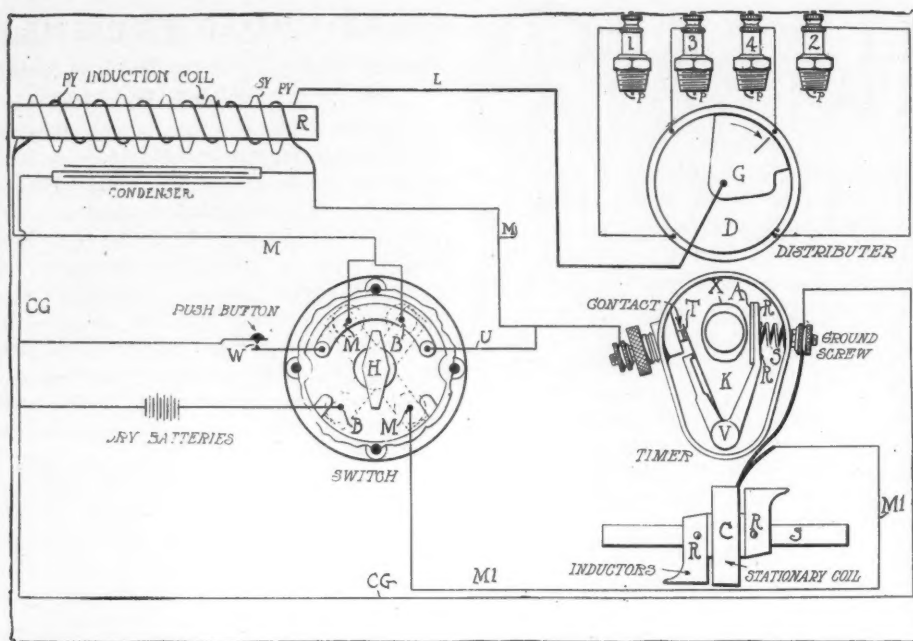

FIG. 4—WIRING DIAGRAM OF REMY IGNITION SYSTEM
1. The wiring diagram of the Remy ignition system is shown in Fig. 4 and the current may be traced through the various features as follows: When the switch H is turned so that contact is made between the two points N and M, and the motor is in operation, the primary current which is generated in the stationary coil C of the magneto, passes up through the ground screw and the spring S through the V-shaped crank V of the circuit breaker across the contact points T, through the adjusting screw and the wire M2 connected to it to the primary winding PY of the coil, out through a ground wire M to the switch, across the points M of the switch and out through the wire M1, and back to the stationary coil C of the magneto to complete the circuit. As the primary circuit is completed and the low tension circuit flows through the primary winding of the coil, the core R of the coil is magnetized and a magnetic field is produced about it which effects the secondary winding SY of the coil. When the cam X of the circuit breaker strikes the plate A of the V-shaped arm, which is pivoted at the lower point V, contact between the two platinum points T is suddenly broken and the primary current ceases to flow. This breaking of the primary circuit demagnetizes the core C and causes a powerful electro-motive force to surge up in the secondary winding of the coil, and when the revolving segment G of the distributor is synchronously brought opposite one of the terminals whose high tension wire leads to one of the spark plugs, a high tension current flows through the high tension lead L through the revolving segment of the distributor and the high tension cable to the spark plug where it jumps across the gap T and produces the ignition spark.